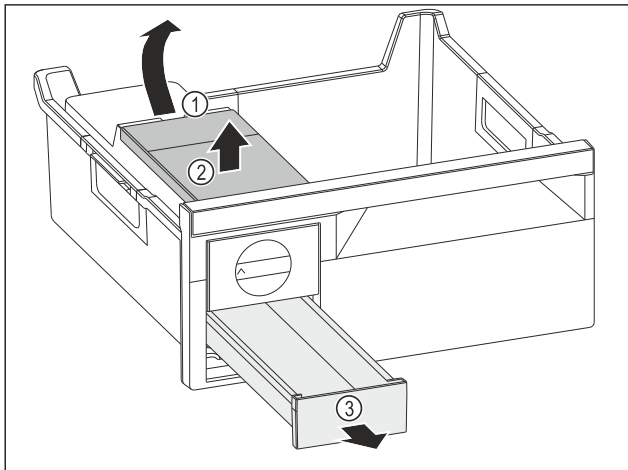

Fig. 120
- ▶ Removing the water tank: Lift the water tank by the recess Fig. 120 (1).
- ▶ Remove the water tank Fig. 120 (2) upwards.
- ▶ Remove the ice cube drawer Fig. 120 (3) to the front.